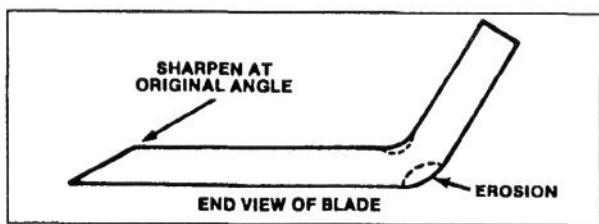

Figure 18
Check cutter blade every time rider is tipped on end. If bolt holding blade is loose, tighten it to 45–60 ft-lb. If blade or sail (Fig. 18) at end of blade is worn, eroded, or cracked, replace the blade. Replace the blade if it is bent or out-of-balance. Always use genuine TORO replacement blade to ensure safety and best performance. NEVER USE WILL-FIT REPLACEMENT BLADE.
7. Using a file, sharpen cutting edge at both ends of the blade (Fig. 18).
7. Since rider is tipped on end, check condition of blade (Fig. 18).